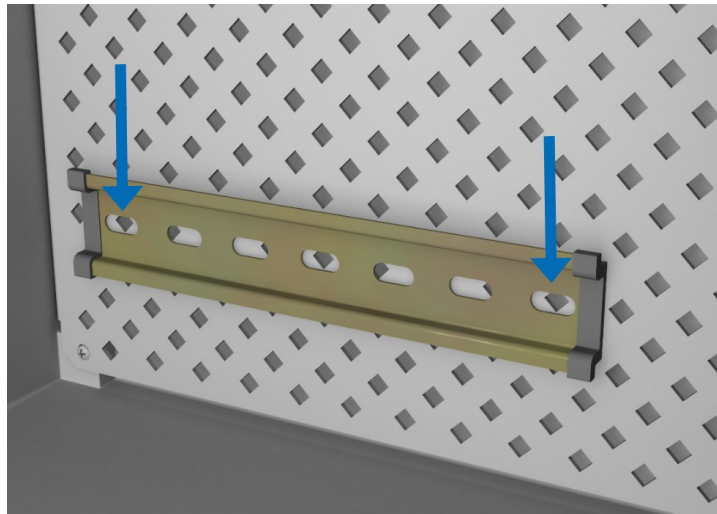

FIGURE B-3. Determining the DIN-rail mounting hole locations
2. Locate the position to mount the DIN rail inside the enclosure (FIGURE B-3 (p. 34)). There must be sufficient room on all sides to provide clearance for any component mounted on the DIN rail. Note the location of the backplate mounting holes at either end of the DIN rail.